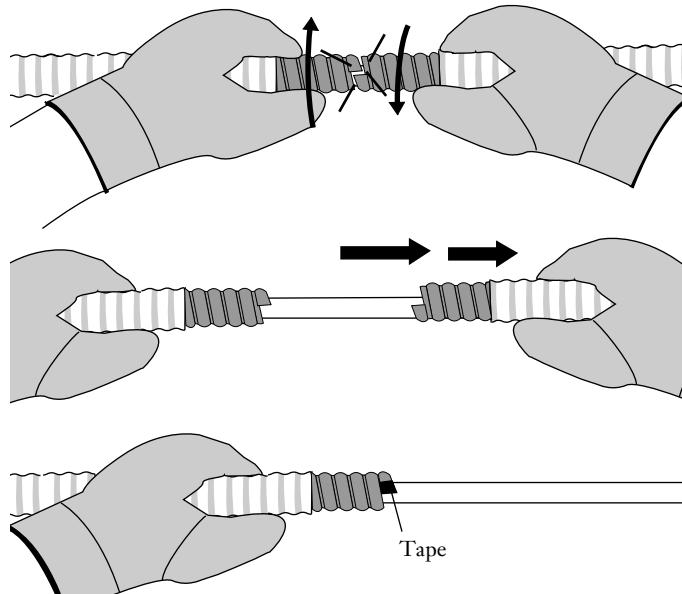

Figure 8
4.8 Holding the cable on both sides of the cut, twist the cable to separate the armor. Remove the armor and outer sheath from the free end of the cable by sliding it off. (Figure 8).